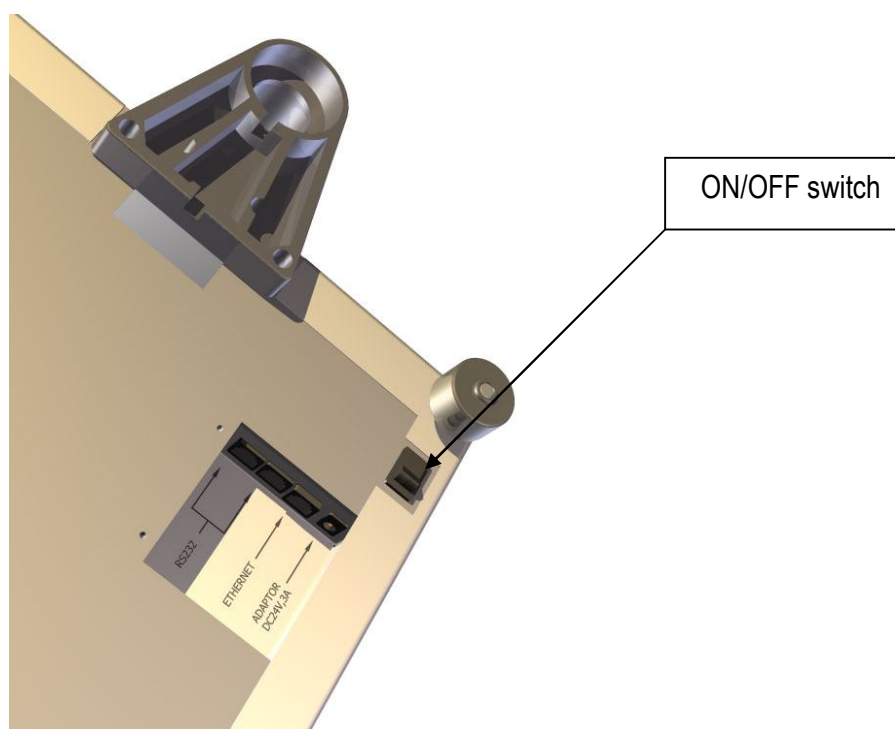

Fig. 7.1
On Fig.7.1 are shown all interface connectors of the ETS scale.
1. The scale can be connected via Ethernet Connection to network SWITCH or HUB by its standard 8 pin RJ45 connector labeled on Fig.7.1 as "Ethernet"
2. The connectors RS232 are labeled on Fig.7.1 as „RS232” and are designed as: